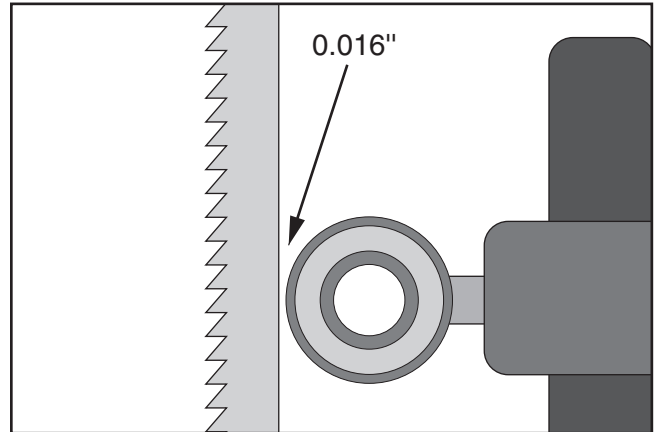

Figure 23. Bearing positioned 0.016" away from back of blade.
3. Position support bearing approximately 0.016" away from the back of the blade, as illustrated in **Figure 23**. This can be measured with a feeler gauge or a dollar bill.